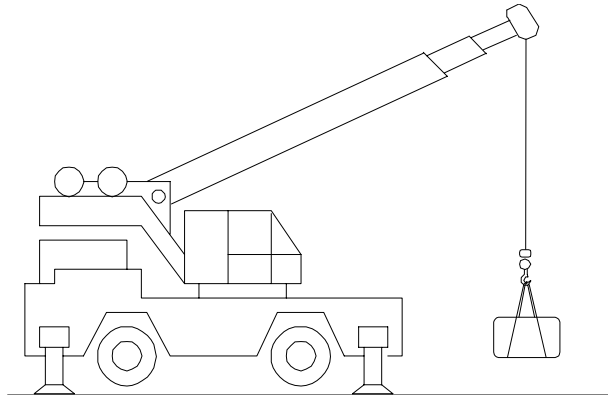

Figure 15
8. Lift the test weight off the ground (Fig. 15).